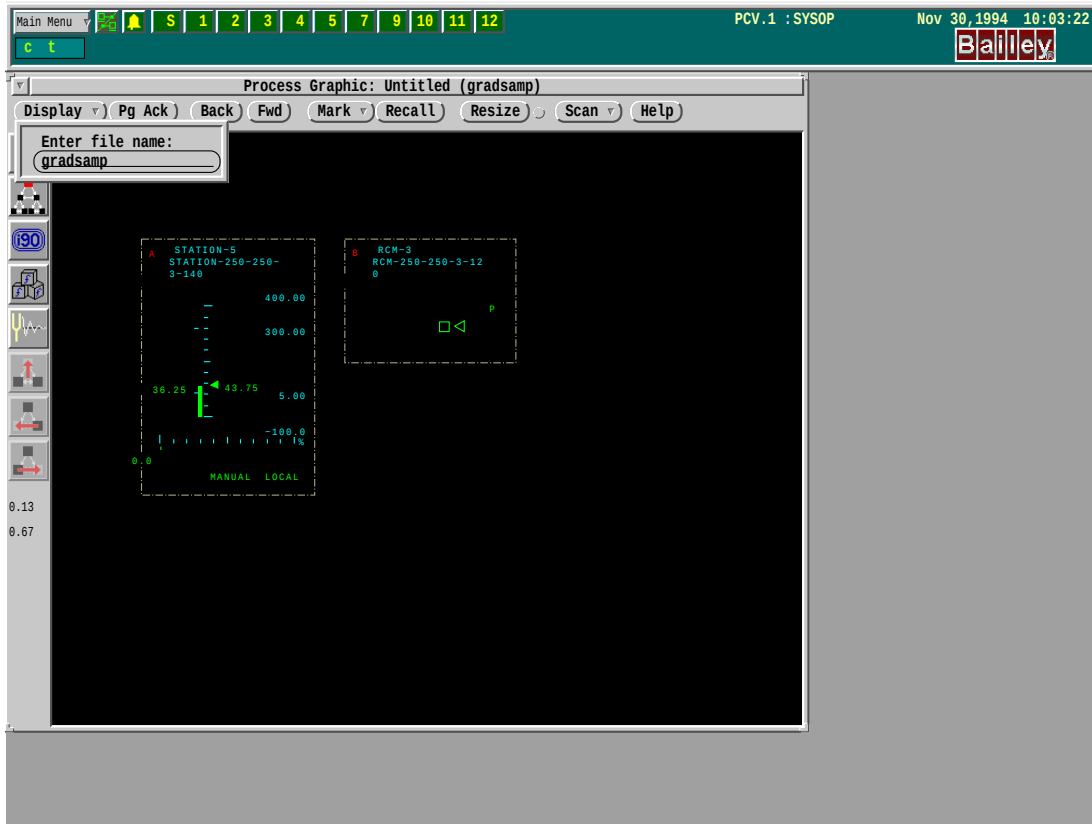

Figure 6-9. Calling Up the New Display
- Call up this new display. Menu click on **Main Menu** on the Executive Bar. Select **Process Graphic**. Action click on the display button on the process graphic. Enter *gradsamp* and press <Enter> (Figure 6-9).